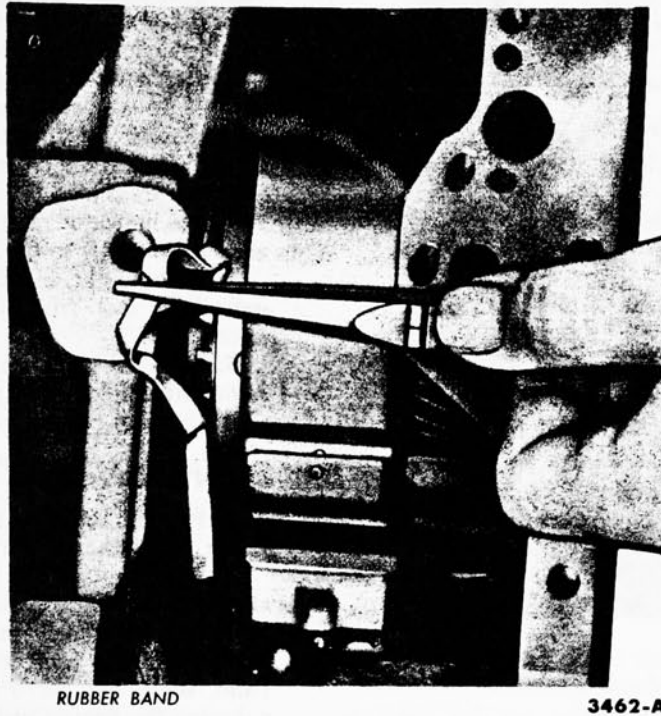

FIG. 32—Rubber Band Removal
19. Remove the rubber band (Fig. 32).